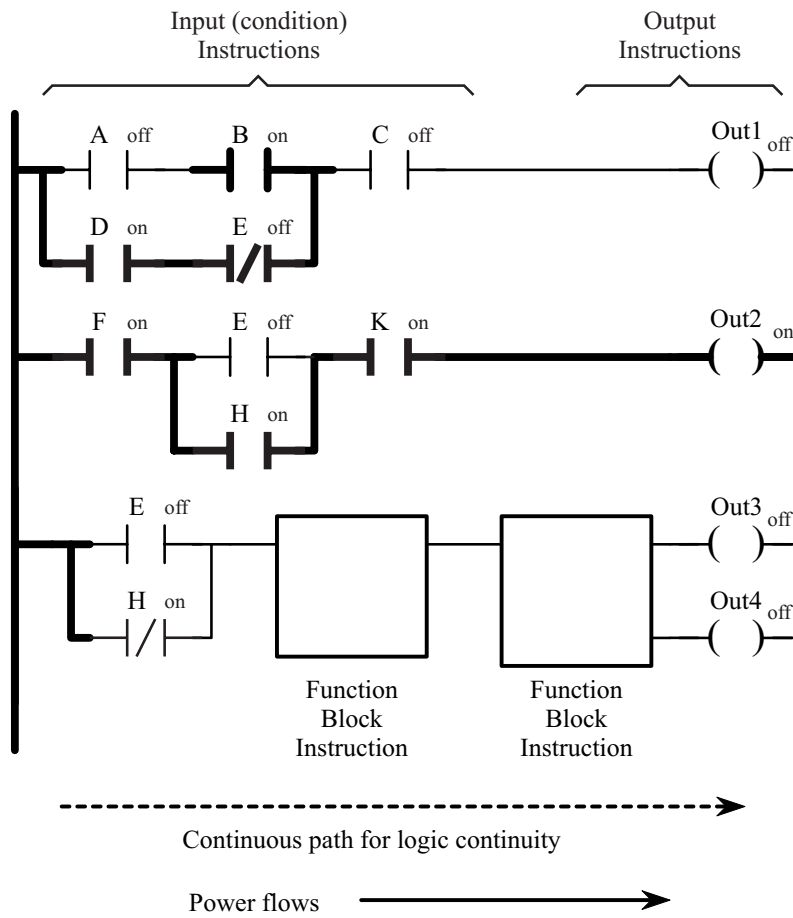
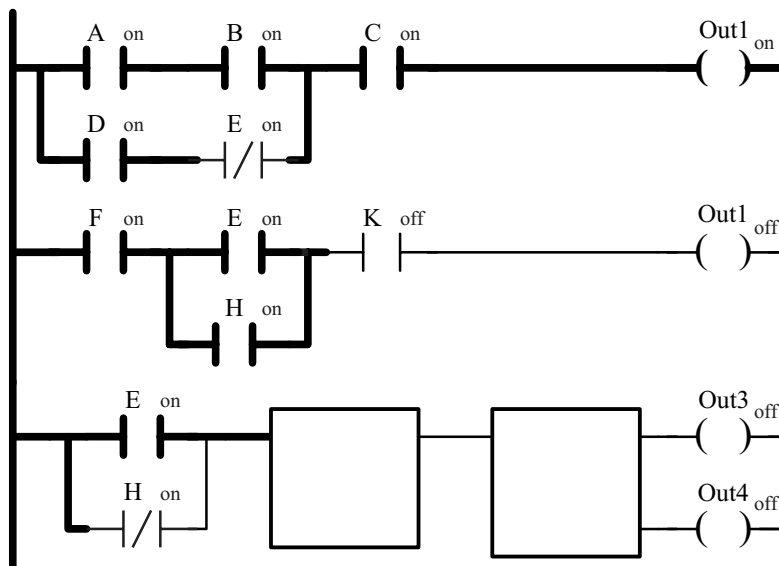
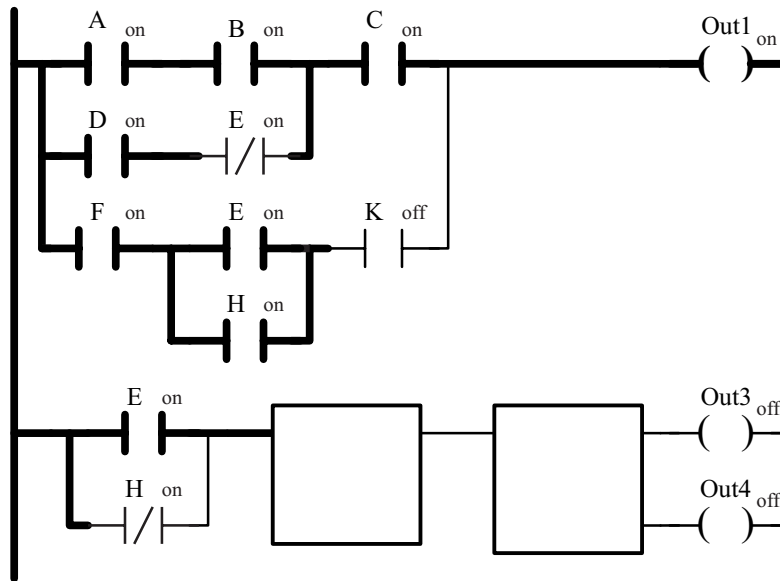

Figure 2.9. Sample ladder logic diagram.
Figure 2.14. Ladder with repeated output.
Figure 2.15. Repeated output corrected.
An example PLC ladder logic diagram appears in Figure 2.9. The vertical lines on the left and right are called the power rails. The contacts are arranged horizontally between the power rails, hence the term *rung*. The ladder diagram in Figure 2.9 has three rungs. The arrangement is similar to a ladder one uses to climb onto a roof. In addition, Figure 2.9 shows an example diagram like one would see if monitoring the running program in the PLC. The thick lines indicate continuity and the state (**on/off**) of the inputs and outputs is shown next to the tag. Regardless of the contact symbol, if the contact is closed (continuity through it), it is shown as thick lines. If the contact is open, it is shown as thin lines. In a relay ladder diagram, power flows from left to right. In PLC ladder logic, there is no real power flow, but there still must be a continuous path through closed contacts in order to energize an output. In Figure 2.9 the output on the first rung is **off** because the contact for C is open, blocking continuity through the D and E contacts. Also notice that the E input is **off**,
Figure 2.9 also introduces the concept of *function block instructions*. Any instruction that is not a contact or a coil is called a function block instruction because of its appearance in the ladder diagram. The most common function block instructions are timer, counter, comparison, and computation operations. More advanced function block instructions include sequencer, shift register, and first-in first-out operations.
1. **DO NOT** repeat normal output coils or negated coils that refer to the same tag. To illustrate what happens when this is done, consider the ladder logic diagram in Figure 2.14. This is the ladder of Figure 2.9, modified for this illustration. Note that the coils for both the first and second rung refer to Out1. When the first rung of the ladder is scanned, Out1 is turned **on**. However, when the second rung is scanned, Out1 is turned **off**, overriding the logic in the first rung. If all of these conditions are needed to turn on Out1, then they all should be placed in parallel, as in Figure 2.15. In this illustration, it was obvious there is a problem. Normally,